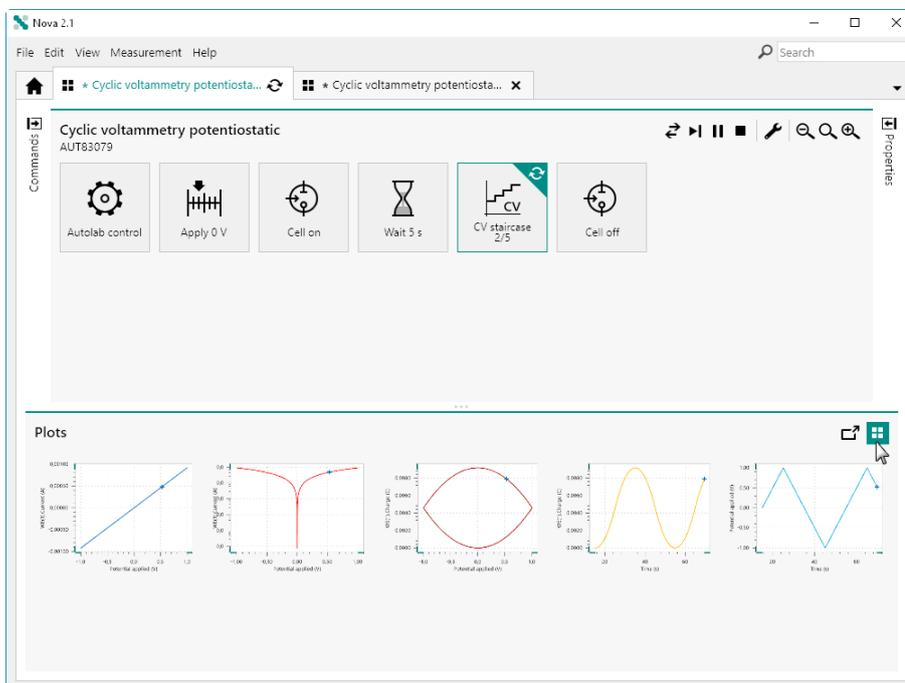

Figure 837 Plots displayed in tiled arrangement
- Tiled arrangement:** all the plots defined in the procedure are shown in the **Plots** frame and are shrunk to size required to show each plot in the frame. No scrollbar is added to the Plots frame in this case (see Figure 837, page 686).